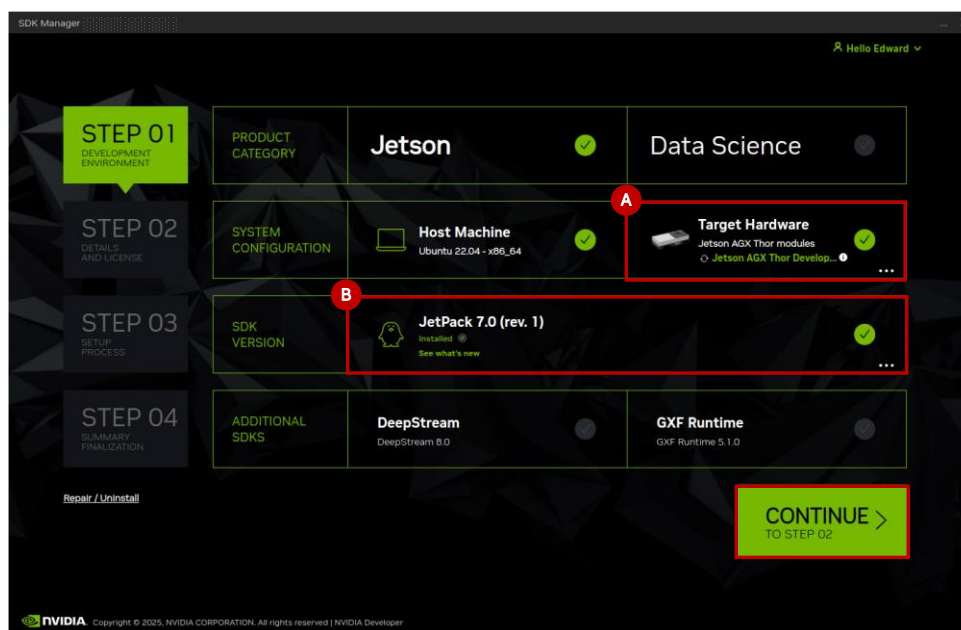

Figure 6.16. STEP 01 – Development Environment
- Select **Jetson AGX Thor Development** as the **Target Hardware** (see letter **A** in Figure 6.16). Verify that the Jetson AGX Thor module is detected. If the module is not detected, repeat the **Recovery mode step**. Set the SDK version to **JetPack 7.0 (rev. 1)** (see letter **B** in Figure 6.16). Click **CONTINUE** to proceed to **STEP 02 – Details and License**.